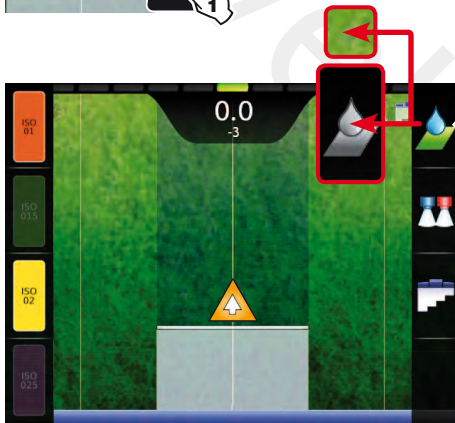

Fig. 246
- 2 Press **F2** (Fig. 246) to enable or disable automatic adjustment.